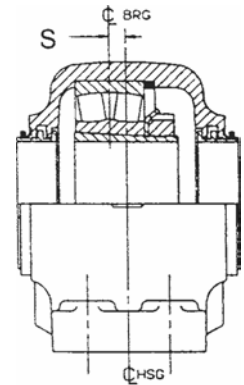

Figure 2
3. Install the bearing parts in the following sequence: (refer to Figure 3). **NOTE:** Bearing can only be correctly installed one way. Refer to **Figure 2** on page 4.
d) Bearing — Make sure that the internal clearance has been written down. Install bearing on adapter sleeve, large end of tapered bore first. Locate bearing in proper position on shaft. Before tightening refer to **Figure 2** and Table 4 on page 4.
4. Remove any paint, dirt or burrs from the mating surfaces of the housing halves. Thoroughly clean seal grooves on both sides. Set lower half of housing on base with all four cap bolts in place and apply oil to the bearing seats. Apply grease to the seal grooves in the lower housing. **Be sure the housing is positioned as shown in Figure 2 view relative to adapter nut.**